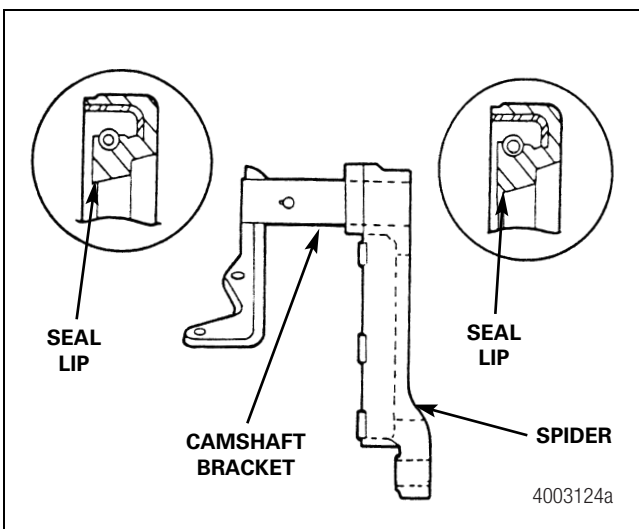

Figure 5.11
3. Install the seals with their lips toward the slack adjuster. Figure 5.11.